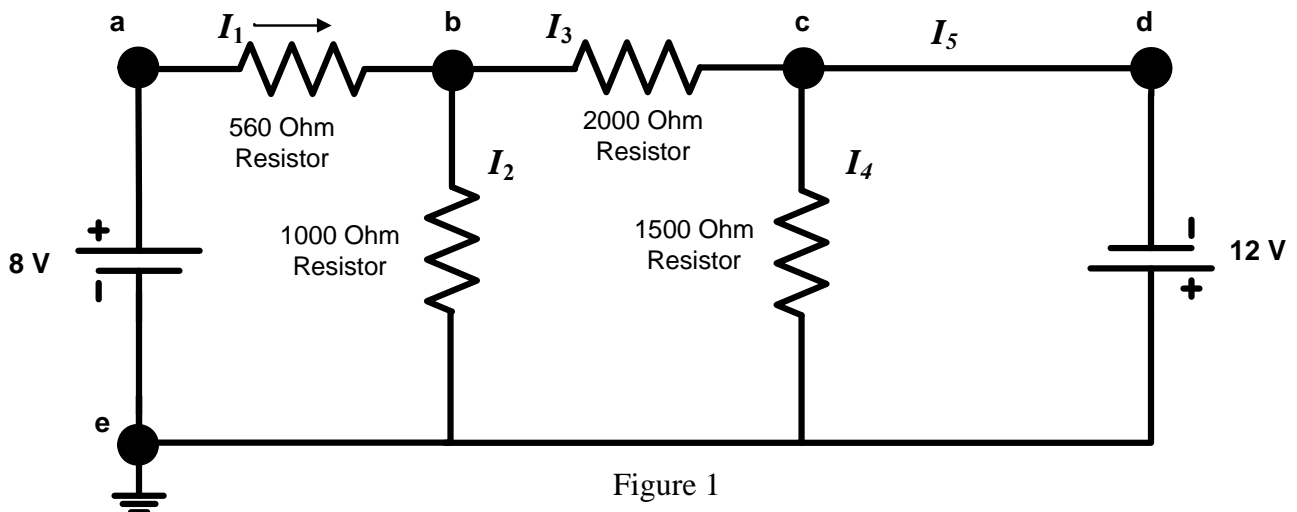

Figure 1
- On a QUAD board, construct the DC series/parallel circuit in Figure 1. Remember to arrange your circuit so that it will be easy to measure currents I_1, I_2, I_3, I_4, I_5 .
- Both V1 and V2 channels of your dual power supply will be used in this circuit. Pay close attention to the polarities of the voltage sources in Figure 1.
- Identify the voltage at each of the lettered nodes of Figure 1. Write the value or write "UNKNOWN" if this value must be calculated in Table 2.
- Assume a direction for each current I_2 through I_5 , and draw the current arrows on Figure 1.
- Using the predicted values of voltages for each of the lettered nodes in Figure 1 and the measured values of your resistors, calculate the current in each branch using Ohm's law or KCL. Fill in the results in Table 3.
The current calculation is performed "tail to head". Look at the current arrows you drew on Figure 1, and calculate the voltage across the resistor by subtracting the value at the "head" of the arrow from the value at the "tail". Look at I_1 . The tail of the arrow is at V_a and the head of the arrow is at V_b .
- Following the assumed current directions that you recorded on Figure 1, measure each of the currents I_1 , I_2 , I_3 , I_4 , I_5 . Record the results in Table 3.